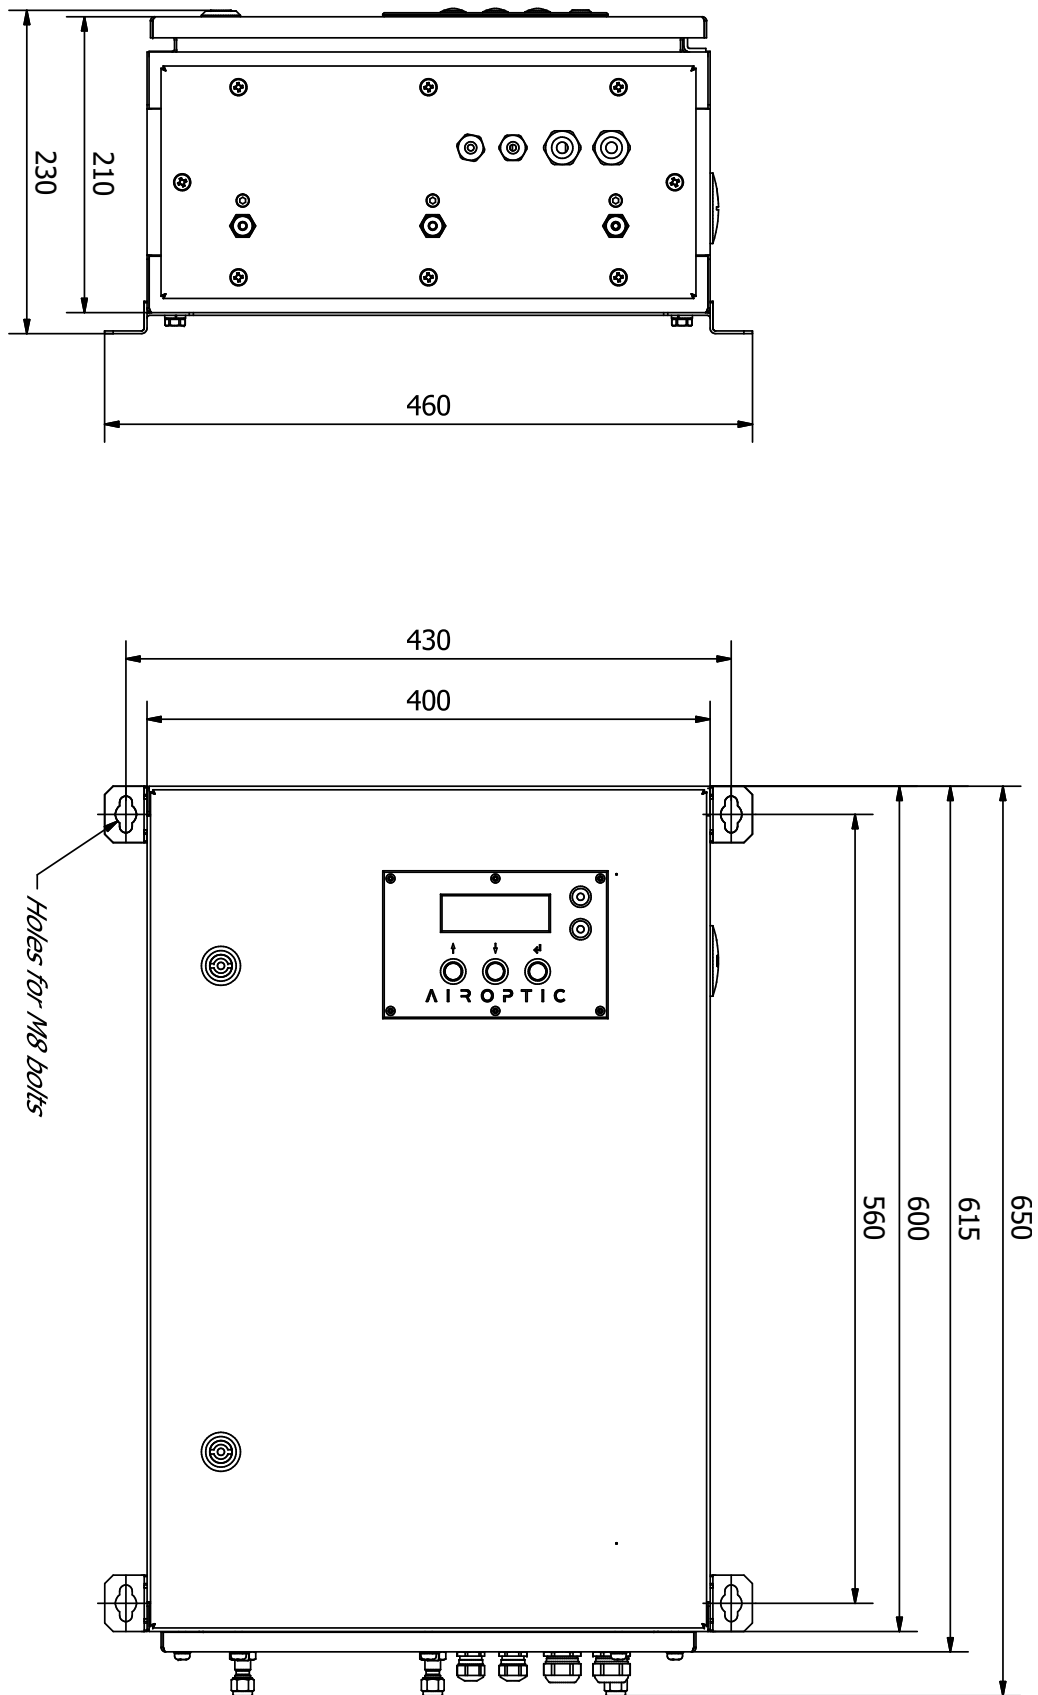

Figure 3 Diagram of GasEye Extractive analyzer with dimensions
**Mechanical specification (Figure 3):**